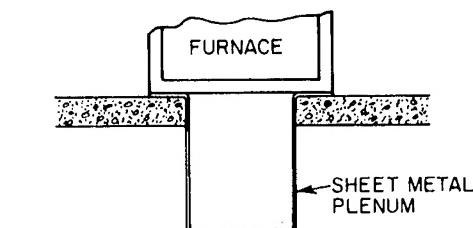

Fig. 4 — Furnace on a Concrete Slab
3. Place plenum and furnace as shown in Fig. 4.